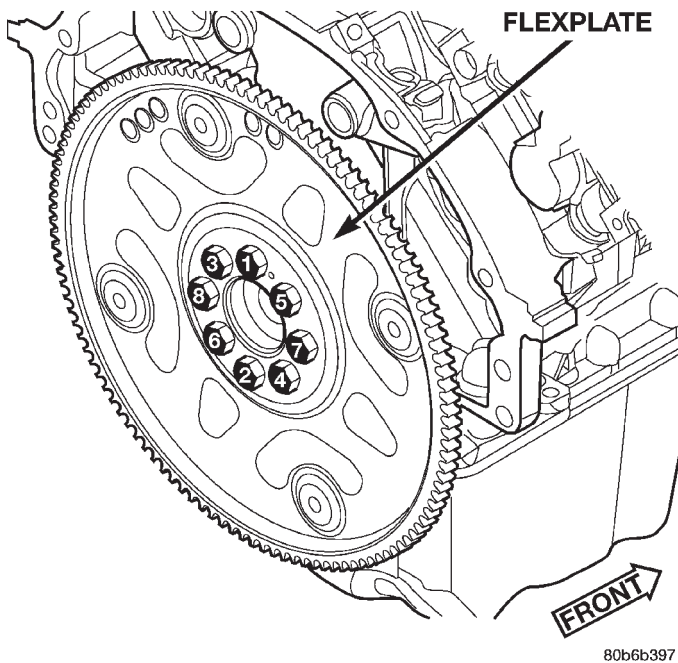

Fig. 104 Flexplate Tightening Sequence
- (1) Position the flexplate onto the crankshaft and install the bolts hand tight.
- (2) Tighten the flexplate retaining bolts to 60 N·m (45 ft. lbs.) in the sequence shown (Fig. 104).